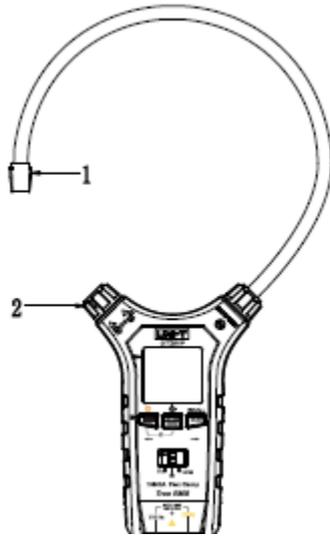

Figure 4.1
- 2) Rotate the coil lock to unlock, completely clamp the coil around the conductor to be measured, and then rotate the lock to lock the coil. (Note that the coil must be fully closed. See Figures 4.1 and 4.2.)